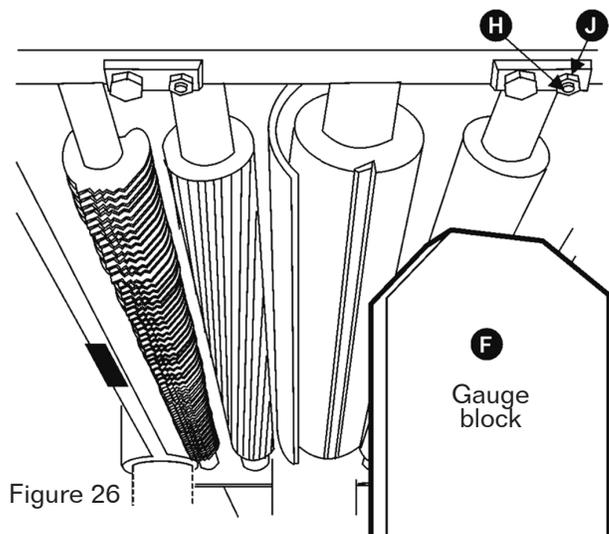
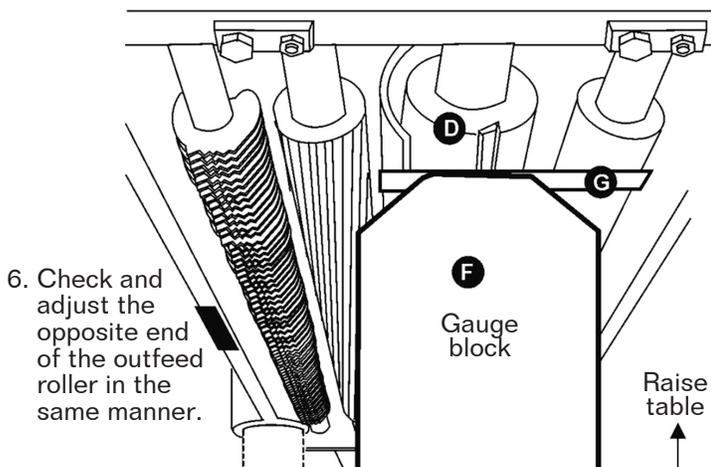

Figure 26
Figure 25
3. Place the gauge block (F, Figure 25) on the table directly beneath the cutterhead (D, Figure 25).
4. Using a 0.02" (0.5mm) feeler gauge (G, Figure 25) placed on top of the gauge block, raise the work table until the knife just touches the feeler gauge when the knife is at its lowest point. Do not move the work table any farther until the outfeed roller is adjusted.
5. Remove the feeler gauge and move the gauge block (F, Figure 25) under one end of the outfeed roller. The bottom of the outfeed roller should just touch the top of the gauge block. If an adjustment to the outfeed roller is necessary, loosen the lock nut (H, Figure 26) and turn screw (J, Figure 26) until the outfeed roller just touches the gauge block. Then tighten lock nut (J, Figure 26).